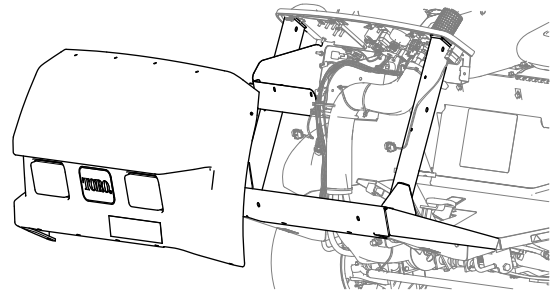

Figure 7
7. Remove the hood from the machine (Figure 7).